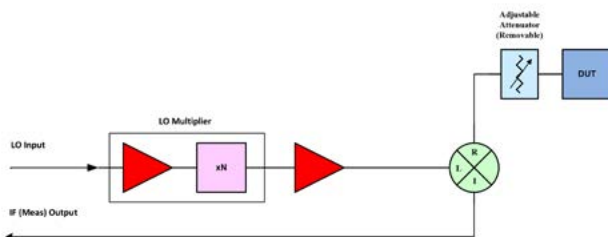

Fig. 3 - RX Extender
A Receive-Only (RX) frequency extender is a single-channel unit that only detects the received signal (Fig. 3). When TX/RX and RX frequency extenders are combined, the resulting test system is capable of measuring  $S_{11}$  and  $S_{21}$  (Fig. 1c). The test system corrects for Source and Load mismatch errors. Measurements of  $S_{22}$  and  $S_{12}$  require reversing the orientation of the DUT. For maximum test system capability, the TX/RX unit should be equipped with increased test signal power.